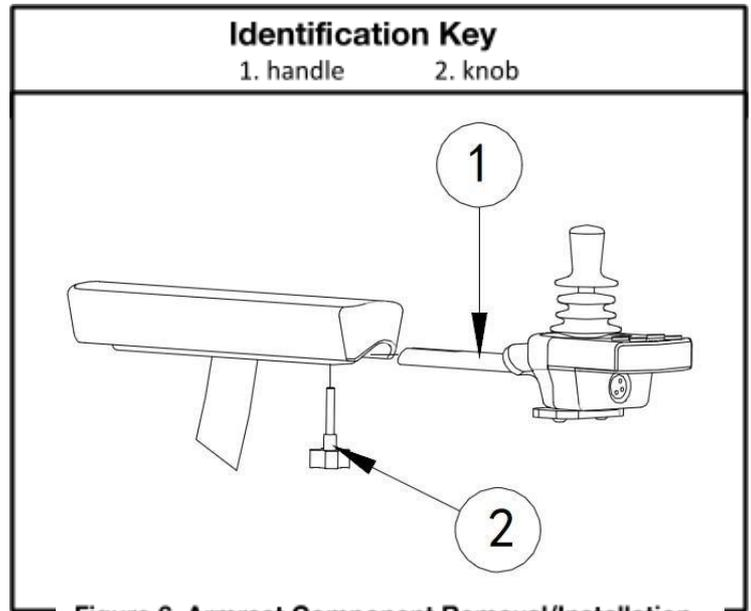

Figure 6. Armrest Component Removal/Installation
4. Insert the controller Joystick into the armrest and tighten the thumbscrew, then latch the quick release handle. **See figure 6.** Hook the controller harness to the securement clips. **See figure 10.**
See figure 6.